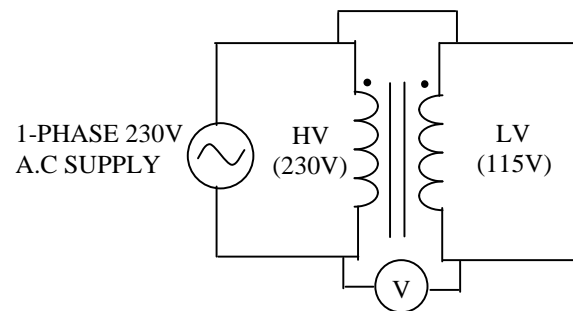

FIG 3.1 Connections for Polarity testing
I.) Determination of polarity: Arbitrarily assign a dot to one of the HV terminals of a transformer unit and connect as shown in Fig. 3.1. Switch on the supply. The voltmeter would read either $V_1 + V_2$ (additive polarity) or $V_1 - V_2$ (subtractive polarity), where V_1 and V_2 are primary and secondary rated voltages respectively. In case the voltmeter reads $V_1 - V_2$, the